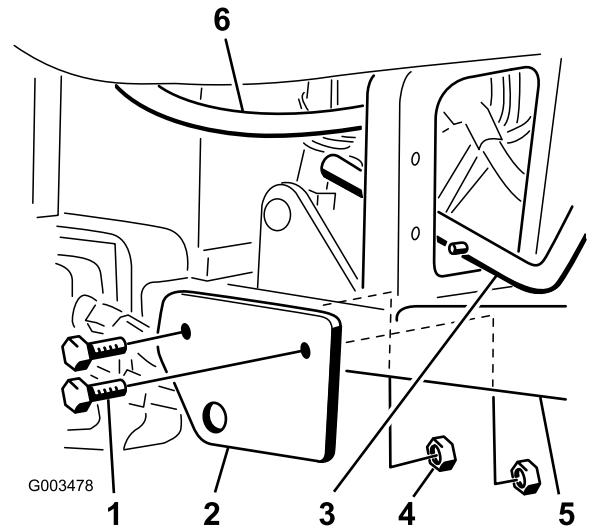

Figure 2
- Install the mounting bracket of the scarifier lift handle assembly to the right footrest tubes with 2 bolts (1/2 x 3-1/4 inch) and **thin** locknuts (1/2 inch), as shown in Figure 2. Make sure the bolt heads are positioned to the outside and that the thin locknuts are used.
9. Check the clearance between the lift handle assembly and the hydraulic line. There must be a minimum clearance of 1/8 inch between the hydraulic line and the lift handle assembly. Gently reposition the hydraulic line as required (Figure 2).